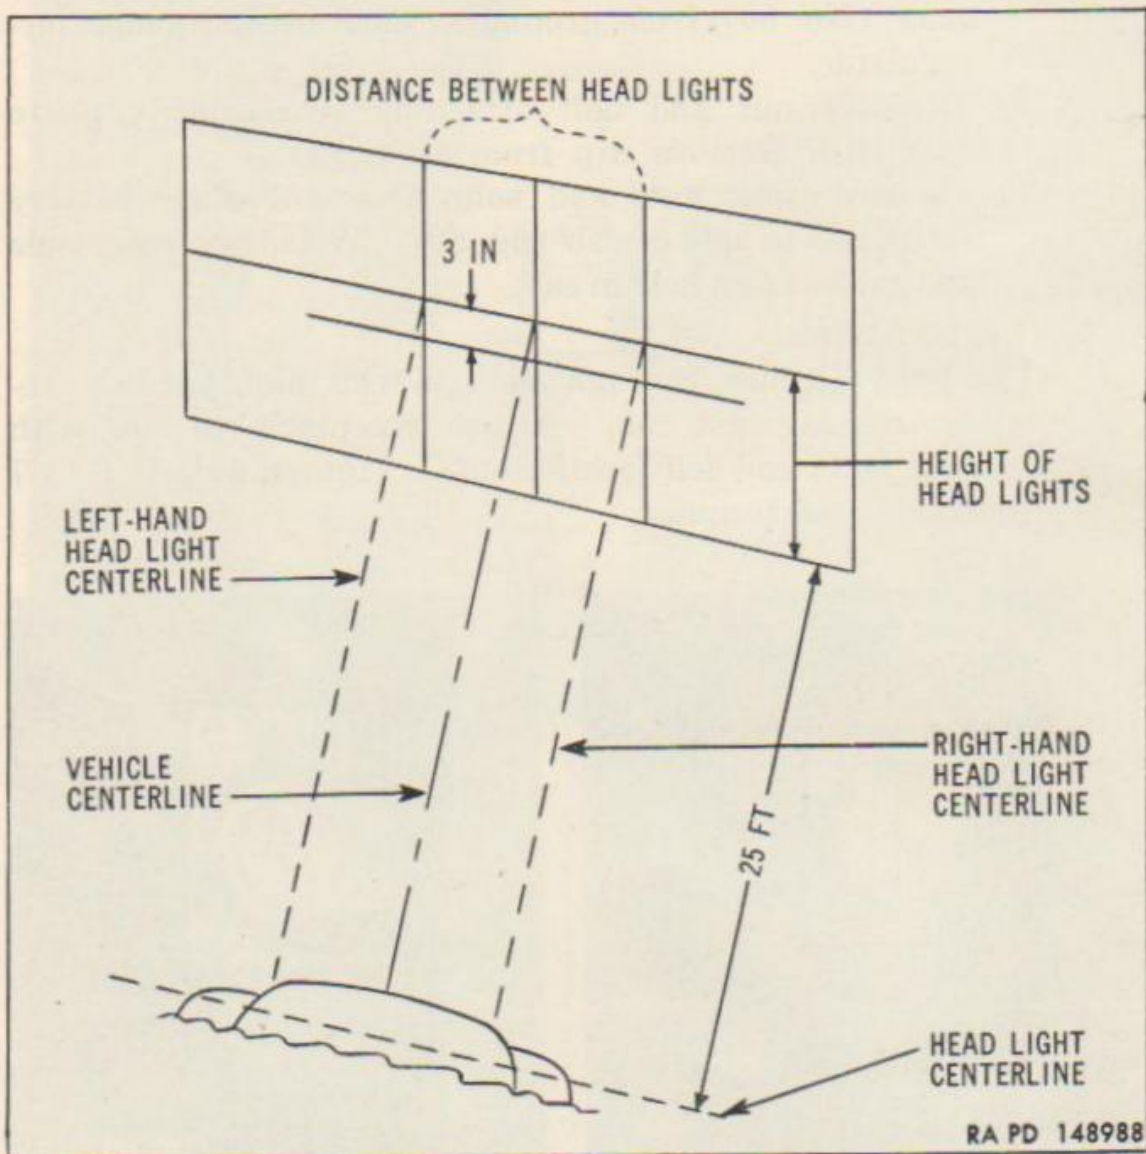

Figure 81. Head light aiming chart.
- (2) Conventional aiming equipment should be used when aiming head lights; however, head light beam can be accurately adjusted as follows:
- (a) Position unloaded vehicle on level floor with head lights 25 feet from a smooth vertical surface such as a wall or door, preferably of light color. Centerline of vehicle must be perpendicular to the vertical surface (fig. 81).
- (c) Locate point at which projected centerline of vehicle intersects these lines. Measure distance between head light centers; then divide this distance equally on both sides of center mark. Draw a vertical line through each of these points (fig. 81).